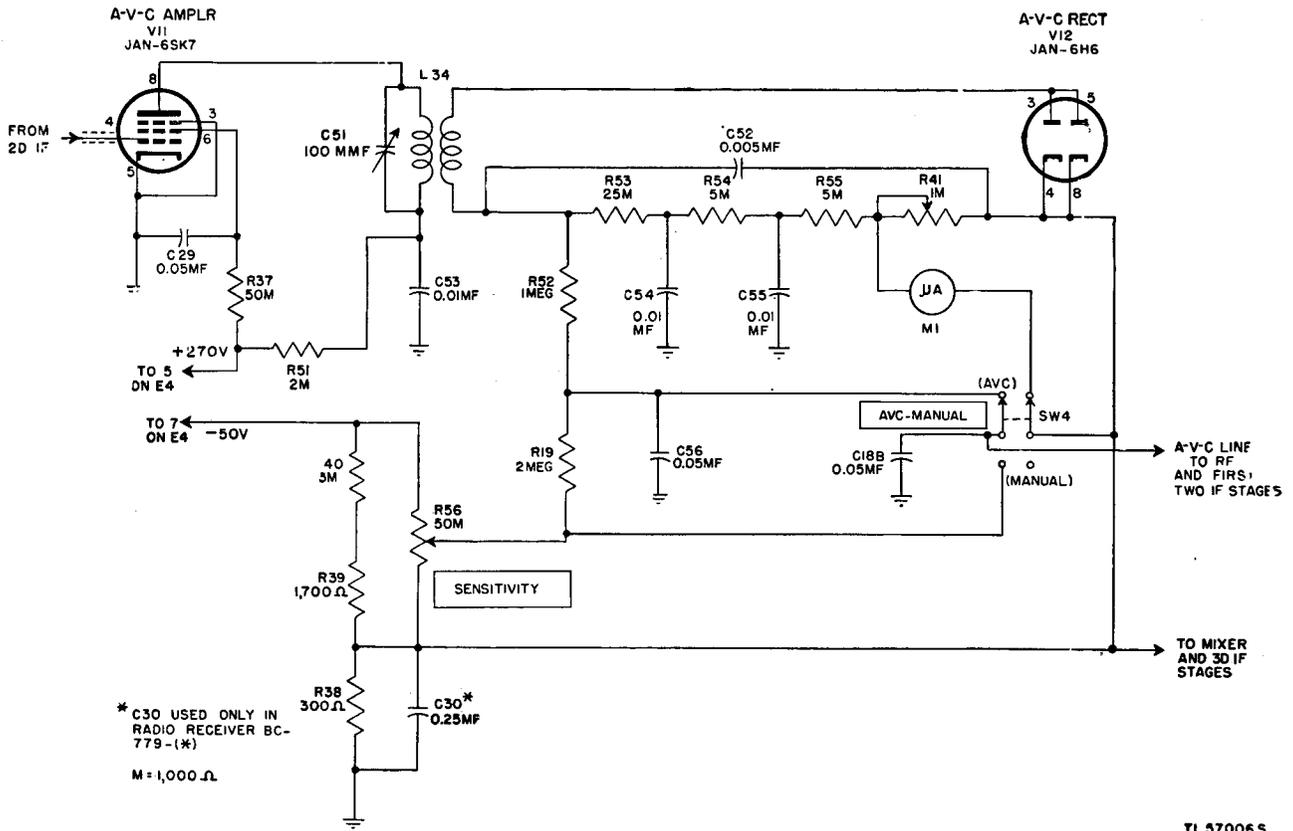

Figure 31. Radio Receiver BC-779-B, functional diagram of a-v-c stages.
a. MIXER TUBE JAN-6L7. For simplicity, capacitor C71, main tuning ganged capacitor C1C, and band spread ganged capacitor C2C are represented as a single variable capacitor C across the inductance trimmed secondary of r-f transformer L18. Signal voltages across C are applied through 600-mmf capacitor C11 to signal grid G1 (top cap) of pentagrid mixer tube JAN-6L7. Fixed bias from the voltage divider (fig. 31) is applied through a filter circuit (10,000-ohm resistor R10 and 0.01-mf capacitor C12) and 500,000-ohm grid resistor R9 to the signal grid. Screen grid G2 and G4 (pin 4) forms a screen about injection grid G3 (pin 5), and the h-f oscillator output is coupled through 95-mmf capacitor C13 to the injection grid. Since the screen grid shields the signal and injection grids from one another, the tube electron stream is modulated independently by the r-f and oscillator signals. Heterodyne action produces sum and difference frequencies in the mixer output. The primary of transformer T1 is tuned by C21 to the 465-kc difference frequency to which the i-f amplifier is also tuned. The i-f voltage across the secondary winding of transformer T1 is applied to the crystal filter.
## 65. A-V-C Circuit (fig. 31)
and to the control grid (pin 4) of the a-v-c amplifier stage V11 (fig. 31). V7 and V11 have a common grid circuit, including fixed bias. The suppressor and cathode of V11 are grounded; screen voltage is applied to pin 6 through 50,000-ohm series-dropping resistor R37; and the screen is bypassed by 0.05-mf capacitor C29. Plate (pin 8) voltage is applied through 2,000-ohm filter resistor R51 and the primary of transformer L34. The primary of L34 is tuned to 465 kc by 100-mmf capacitor C51, and capacitor C53 (0.01-mf) bypasses high frequencies to ground. The transformer secondary is untuned.